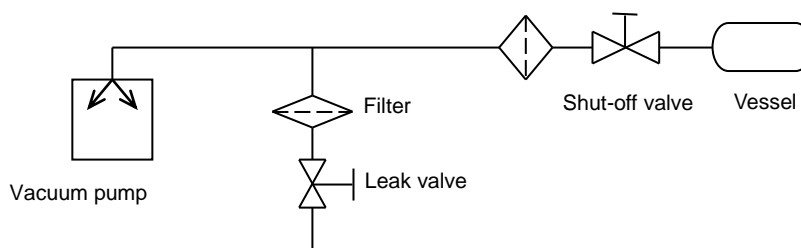

Fig. 3-2 Example of Piping Used When Evacuating a Vessel
- 4) When evacuating a vessel, ensure that a shut-off valve is placed between the pump inlet pipe and the vessel (see Fig. 3-2).